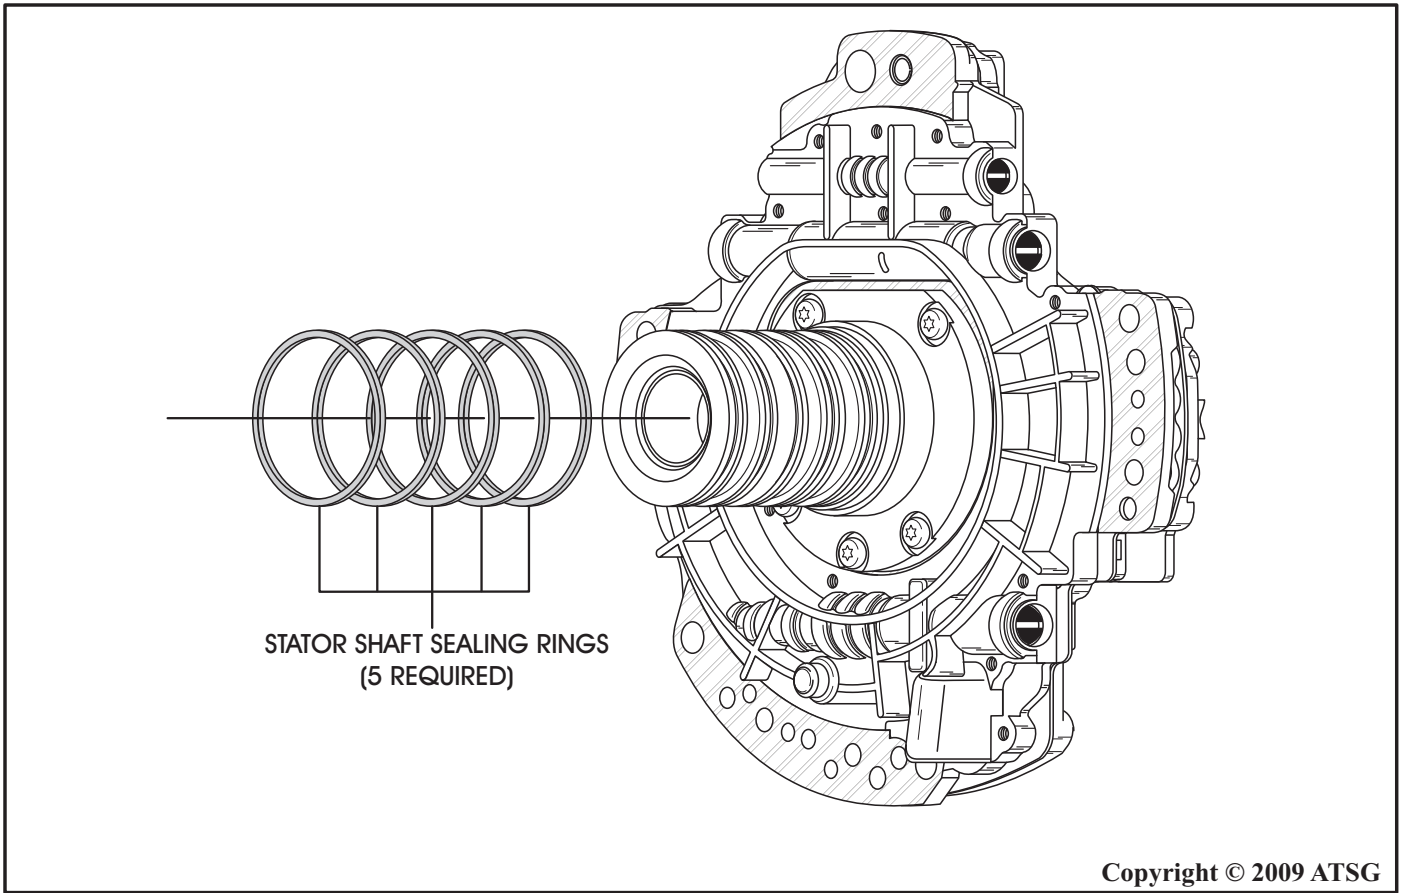

Figure 96
21. Install five new sealing rings on stator support in their respective grooves and ensure that they are properly hooked. Refer to Figure 96.